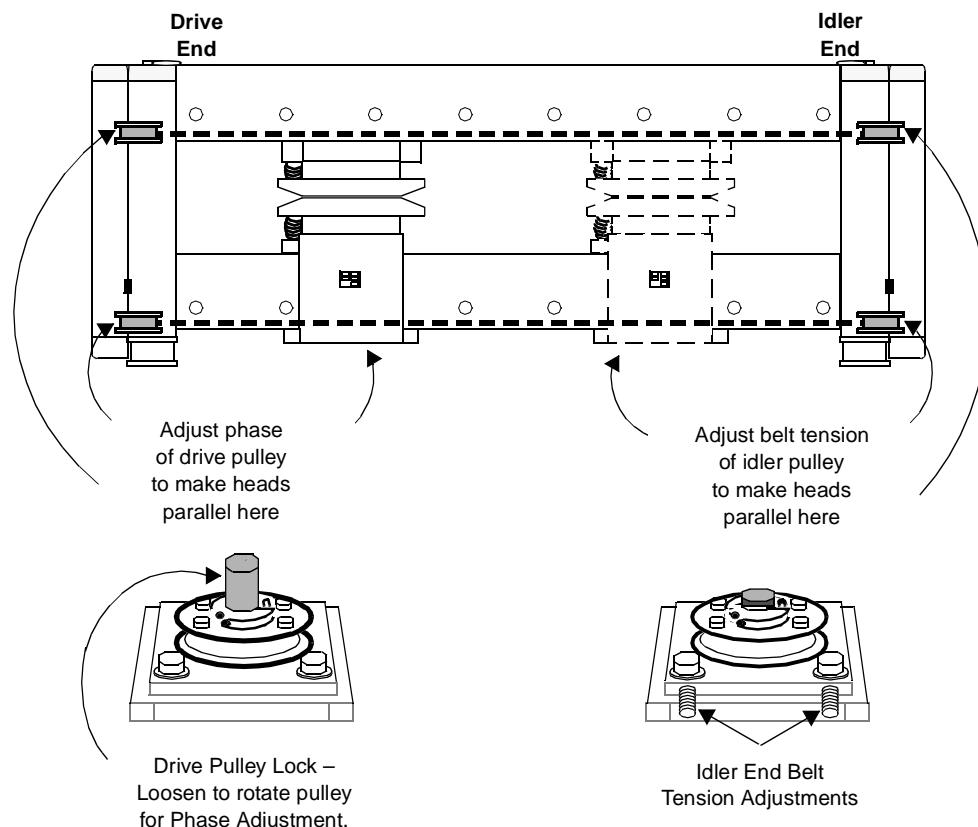

Figure 3-17 Scan Direction Adjustment
5. If they are not aligned in the scan direction within ± 0.010 in., adjust the belt tension in the upper or lower belts by means of the idler bracket adjustment screws. See Figure 3-17.